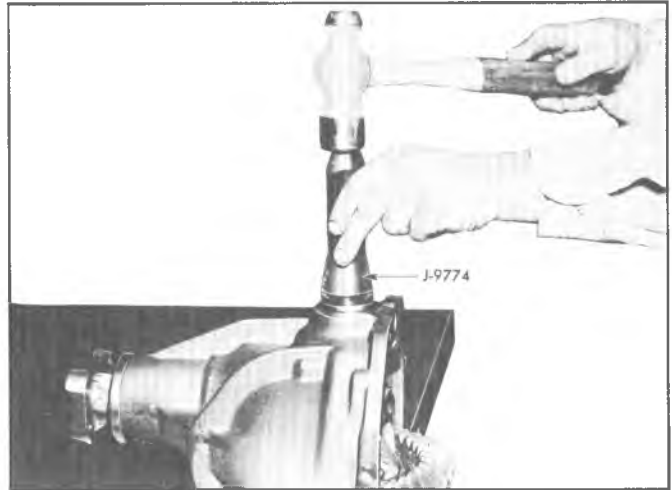

Fig. 7C—Installing Side Gear Yoke Seal
2. Place a new seal on Installer J-9774 and install into seal bore outboard of bearing as in Figure 7C.